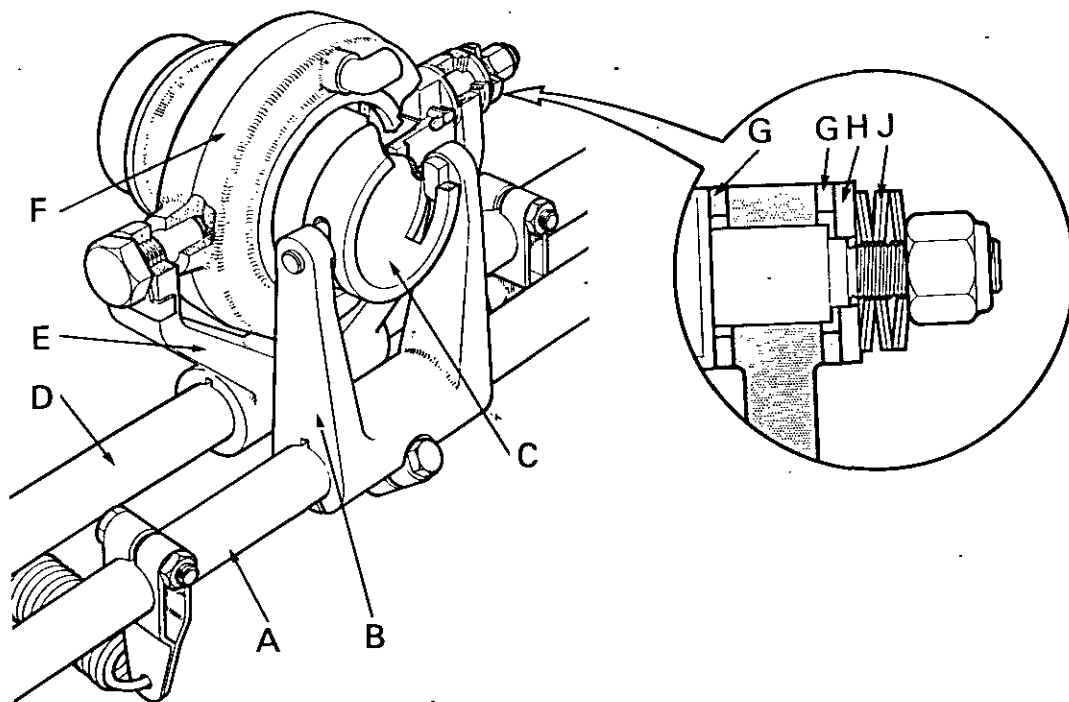

Figure 10. CLUTCH RELEASE MECHANISM — 1200 TRACTORS
1. Examine PTO clutch linkage; lubricate hand lever catch and pivot. Check that cross shaft operates quite freely in main frame. Examine release bearing and renew if any signs of roughness are apparent. On later tractors the bearing housing is connected by a flexible tube to the cross shaft bearing grease passage so that the bearing is lubricated at the same time as the left-hand bearings. If the bearing does not have provision for being lubricated during service, ensure that it is packed with molybdenum disulphide, lithium based grease. If the pin on the right-hand side of the release bearing housing is only 2 in. (50.8 mm) long, replace this with a later type pin, Part No. 925323, which is 2½ in. (57.1 mm) long and the additional length of thread will allow six Belleville washers to be fitted in place of a single washer fitted on earlier, shorter, pin. (Fig. 10.) Fit tabwasher (626399) on left-hand pivot pin.
Connect PTO release bearing carrier to its fork, fitting six Belleville washers, plain washer and two friction washers as shown in Fig. 10. Tighten the Nyloc nut to compress Belleville washers then unscrew a half-turn.
2. If the PTO clutch fork pivot is the early type with only one Belleville washer, fit the latest type pin (925323) and six Belleville washers (626723) as shown in Fig. 10. Tighten the Nyloc nut until the Belleville washers are fully compressed then unscrew half-a-turn. Fit the latest type tabwasher (626399) on the left-hand pivot pin.